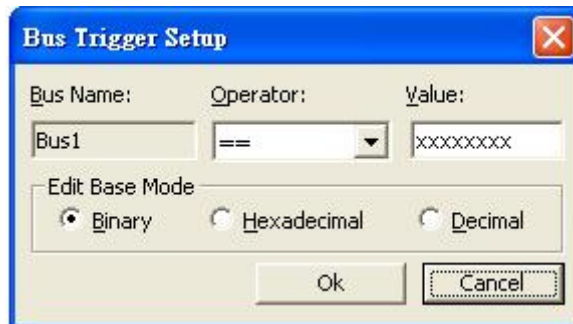

Fig 4-24 – Bus Trigger Setup
1. Highlight the bus which will be triggered then click  icon or select Bus from the Trigger of the Menu bar, the dialogue window as shown in Fig. 4-24 will appear.
2. Set Binary, Hexadecimal or Decimal as the signal of the bus to represent the value(see Fig 4-24).